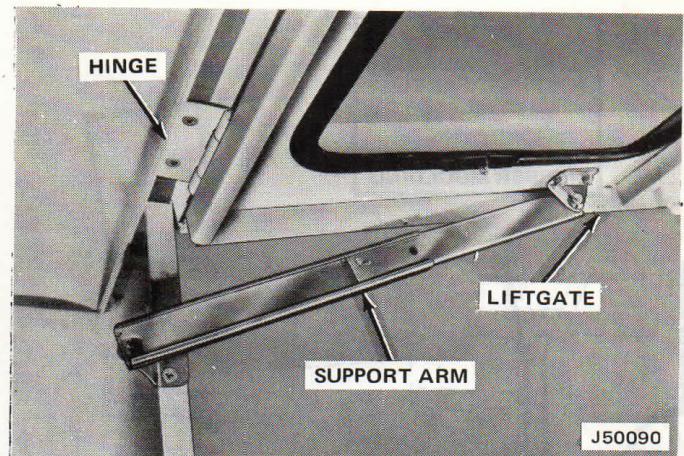

Fig. 2-24 Liftgate Hinges and Support Arms Installed
(1) Attach hinges to roof with screws and locknuts (fig. 2-24).
(2) Attach support arms to liftgate by fastening right angle bracket end with bolts and locknuts.